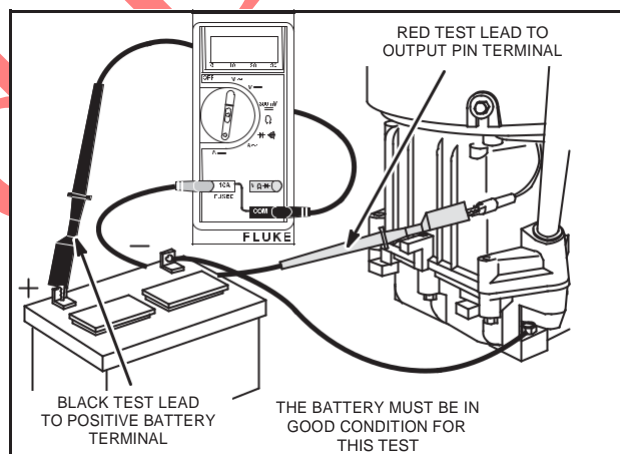

Fig. 11 - Testing DC Output
4. Attach RED test lead clip to DC output terminal, Fig. 11.